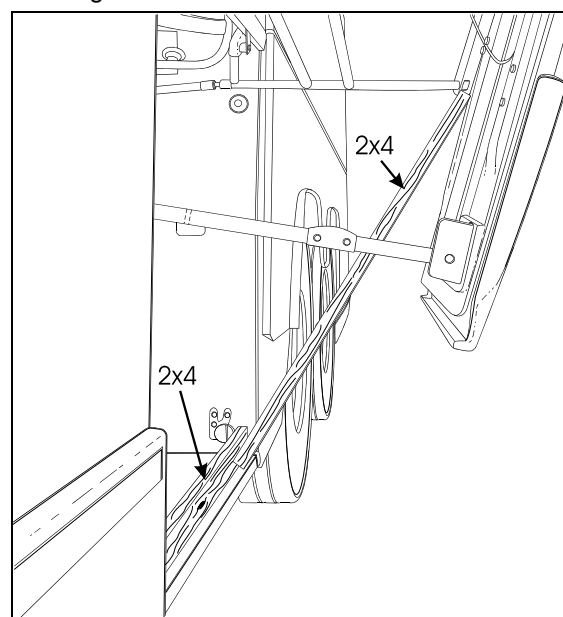

FIGURE 44: PANTOGRAPH ADJUSTMENT 18319
3. Install another piece of 2x4 between the first piece and the bottom of the pivot of the lowest (or shortest) pantograph arm, (Fig. 44).